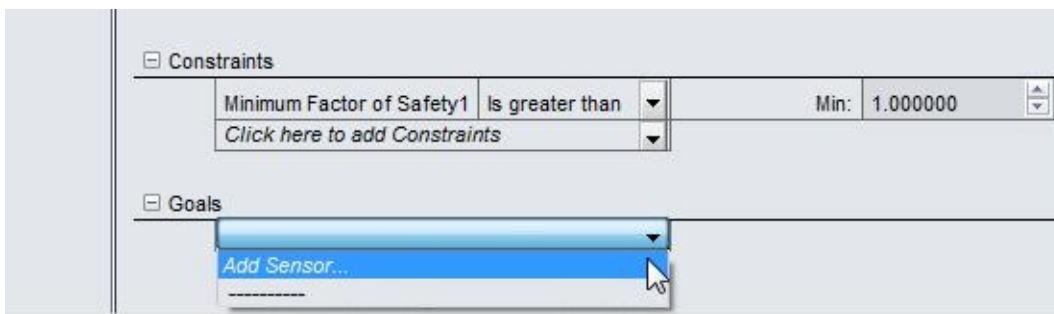

Figure-27. Goals drop down
- Click on the down arrow under the **Goals** node. A list of options will be displayed; refer to Figure-27.